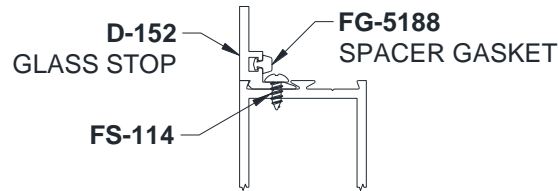

Figure 37: Installing D-152 Glass Stop
13.2.1 Door may have **D-152** Glass Stop factory installed. If it is not, match-drill the rails of the door with the factory-created pilot holes in **D-152**, taking care not to damage the pre-installed **FG-5188** Spacer Gasket. Attach the **D-152** Glass Stop to the door with **FS-114** fasteners. Reference Figure 37.